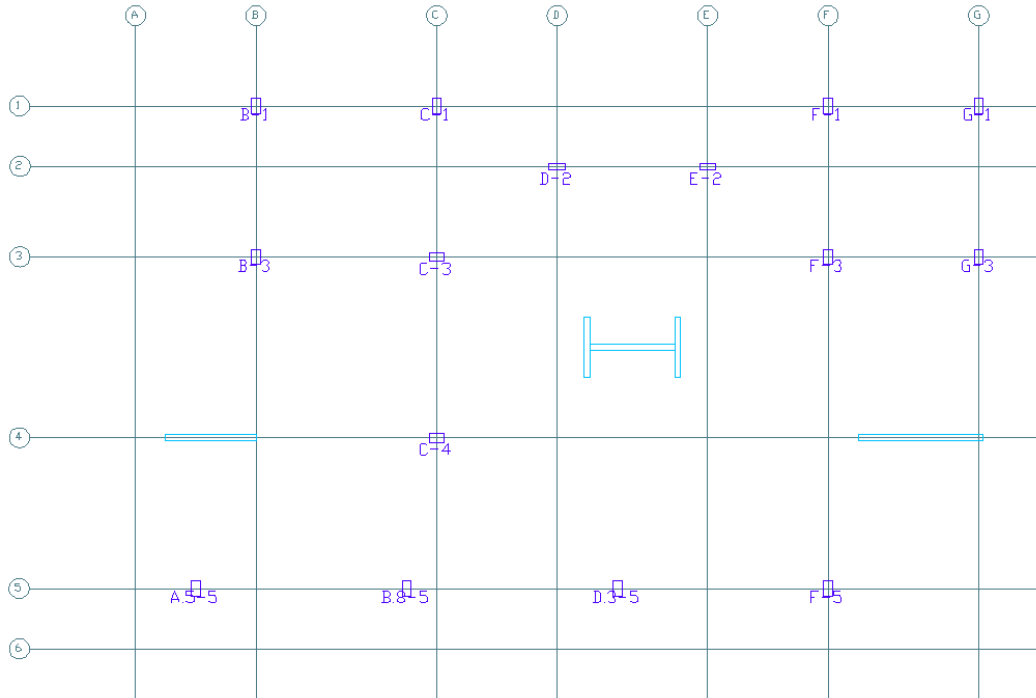

FIGURE 15-6
- Repeat this step for all columns at the lowest level. **FIGURE 15-6** shows the final column label assignments after making the changes.